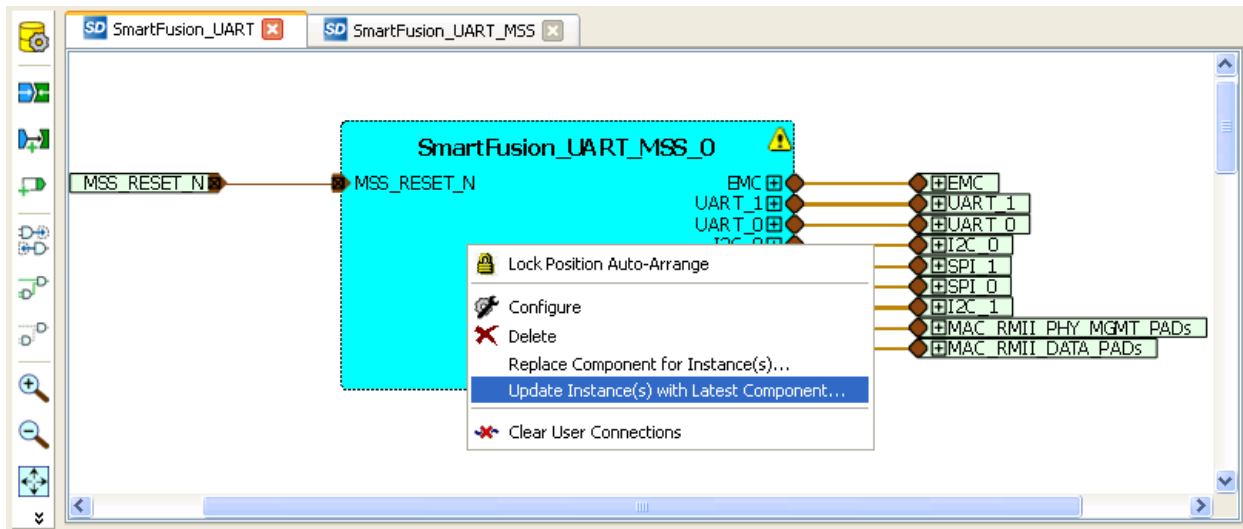

Figure 9 · Updating the MSS
1. Right-click the **SmartFusion_UART_MSS_0** component in the **SmartFusion_UART_MSS** tab and select **Update Instance(s) with Latest Component...**, as shown in Figure 9 . .